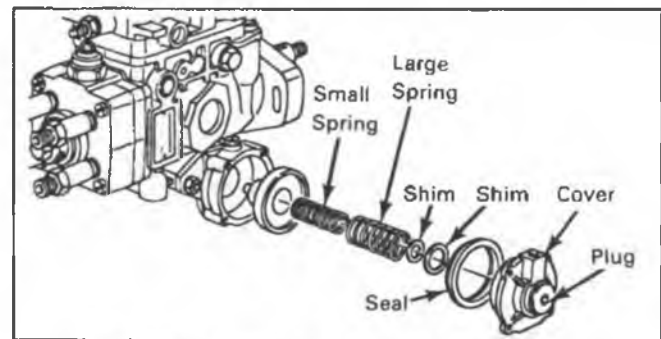

Fig. 4-34 Removing CSD Internal Components
3. Remove the small spring (Fig. 4-34).